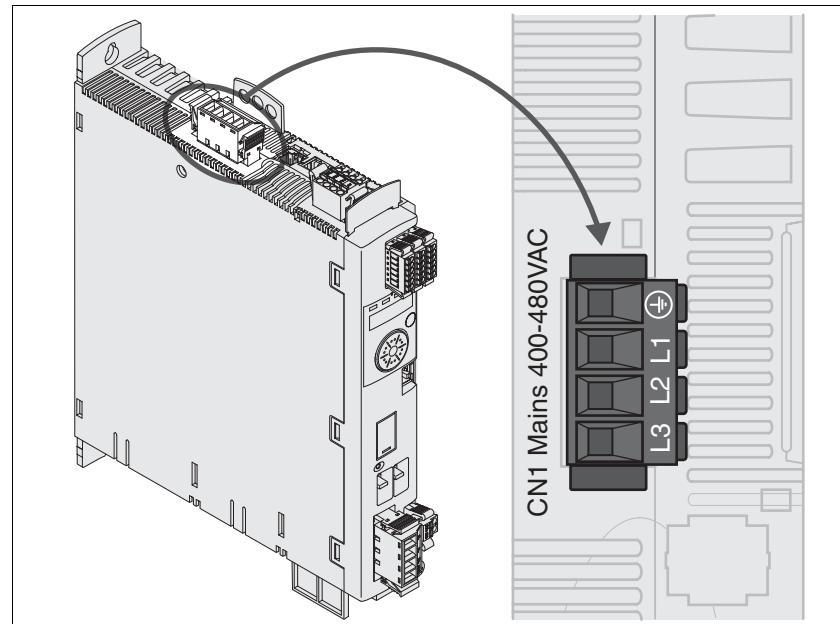

Figure 6.10 Wiring diagram power stage supply voltage for three-phase device
- Connect the mains cable (Figure 6.10). Note the tightening torque specified for the terminal screws.